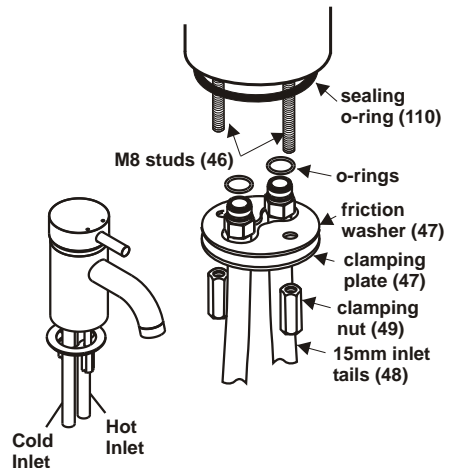

Figure 3 S/L bath filler inlet tails
Place the fitting concentrically in the new tap hole and ensure the sealing o-ring (110) is seated correctly on top of the bath. The clamping plate and friction washer (47) must be placed against the underneath surface of the bath tap deck. Tighten the sleeve fixation nuts (49) until the fitting is secure. (Figure 3)